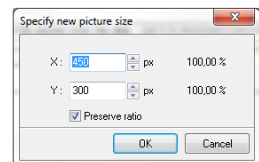

Fig. 378 – scaling the preview
- **Load the picture from the disk** - use it to download a preview file for the tile from any location (also under **<Ctrl + O>**); after loading the picture file other icons become active, this is: the scaling, flipping and rotation buttons. Scaling has been presented on the picture (Fig. 378).